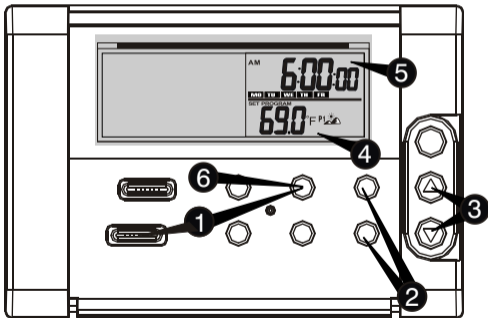

Figure 1
- 1- Slide the system switch to the HEAT position and press the PROG key once. The P1  and SET PROGRAM symbol will appear on the display. MO to FR symbol is shown indicating weekday program is being displayed. (Figure 1)